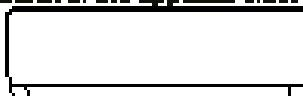

Fig 1
- Depending on the position of the unit, the piping may be routed sideways from the left or the right (Fig 1), or vertically from the back (Fig 2) (depending on the pipe length of the indoor unit). In the case of sideways routing, cut off the outlet cutting slot of the opposite side.